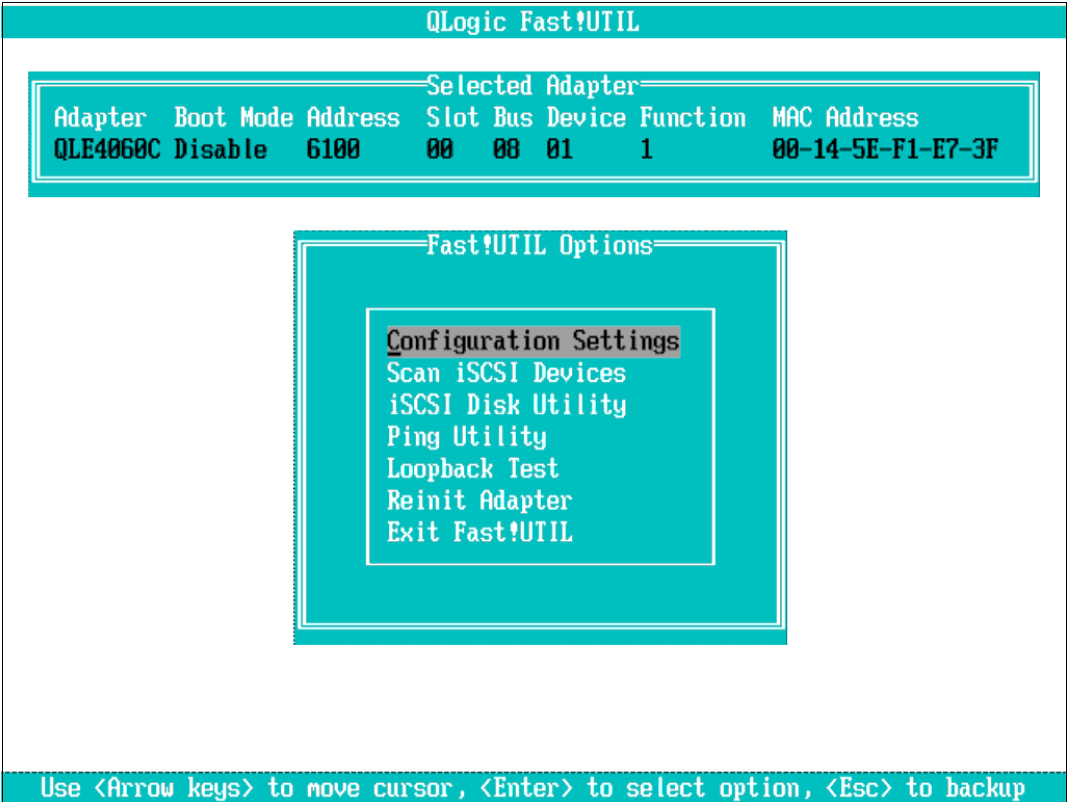

Figure 6-8 Configuration Settings
3. From the Fast!UTIL Options window, select **Configuration Settings** and press Enter, as shown in Figure 6-8.